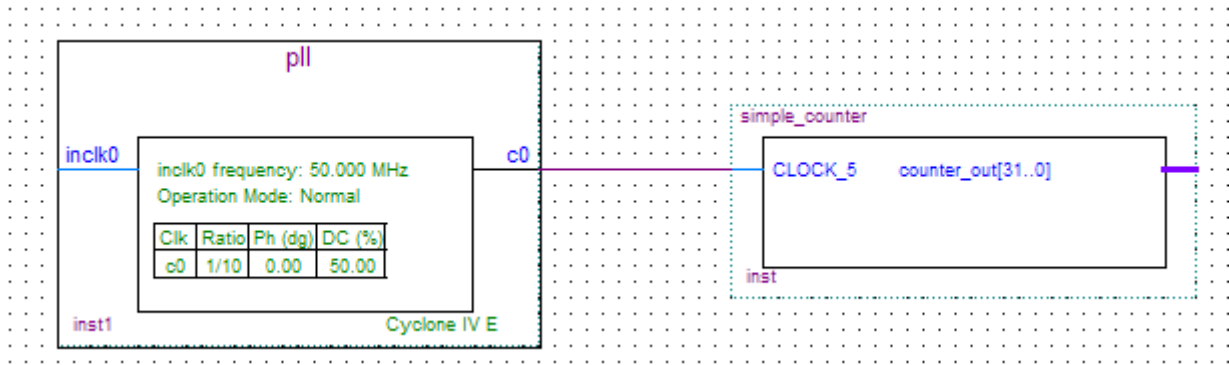

Figure 3-16 Draw a Bus Line connect pll c0 port to simple_counter CLOCK_5 port
- Click and drag a bus line from the c0 output to the simple_counter clock input. This action ties the pll output to the simple_counter input (see Figure 3-16).